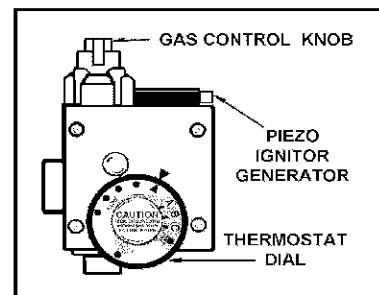

FIGURE 21.
*Temperature Regulation* section in this manual. See Figures 21 and 22.